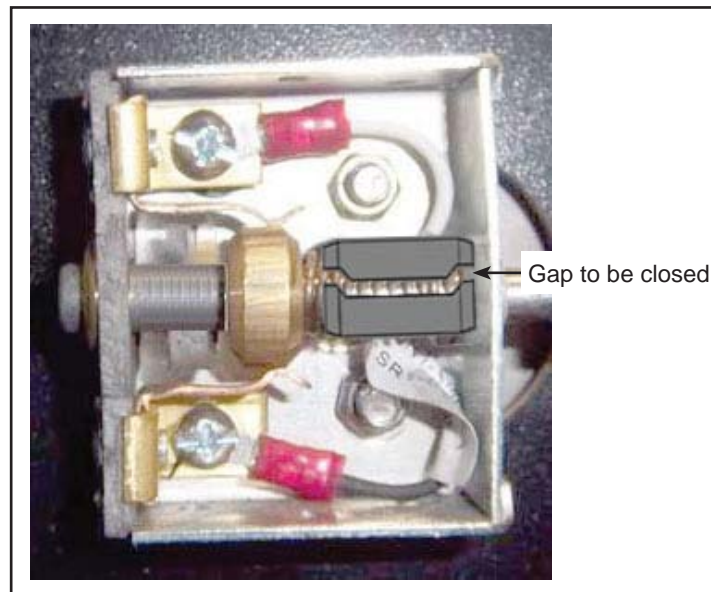

Figure 4 - New N8901643 Spacer Installation
1.6. Install the switch rod with the brass ring, the spring and the new N8901643 spacer over the spring. See Figure 4.
1.8. Gently squeeze the spacer with pliers to close the gap. See Figure 4. Make sure the spring is still free.